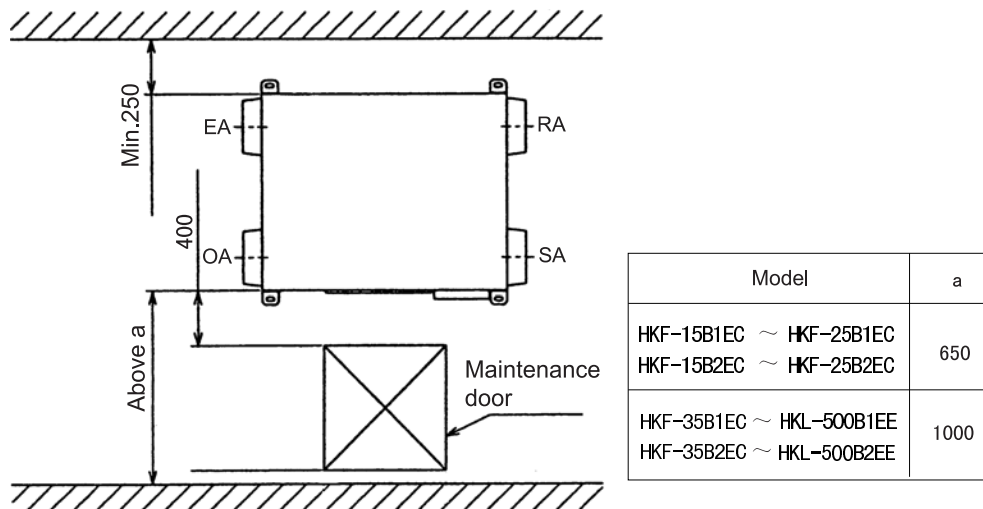

Fig. 4.1 Operation and Maintenance Space
- There is enough space for installing the machine, which is used as operation and maintenance field, seen in Fig. 4.1.